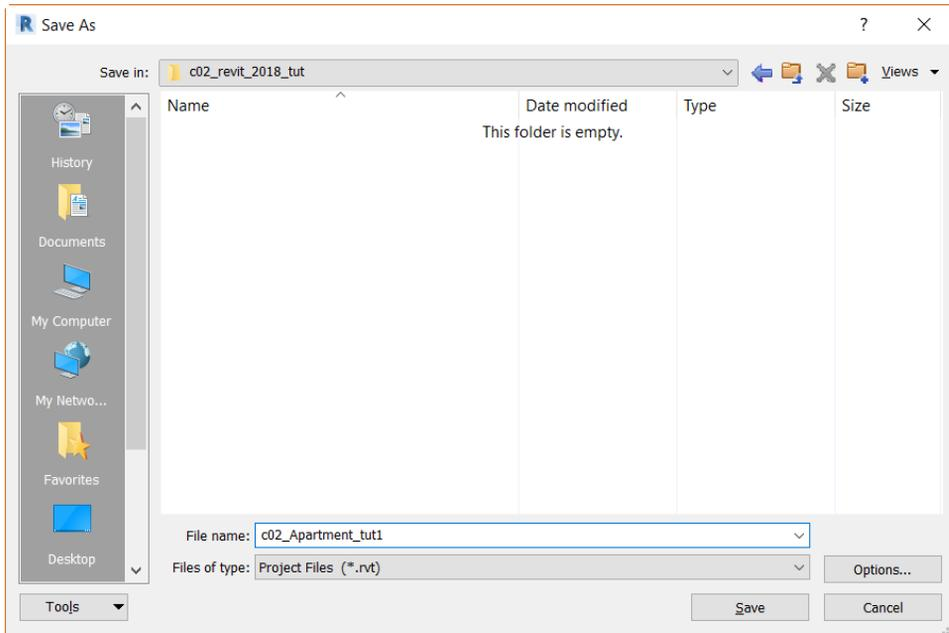

Figure 2-38 Saving the project using the **Save As** dialog box
3. Open the *rvt\_2018* folder and then create a sub-folder with the name *c02\_revit\_2018\_tut*. Next, open the created folder and save the file with the following name, refer to Figure 2-38.